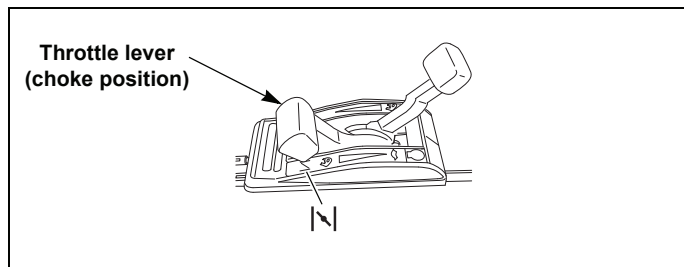

Fig. 4-21
3. Set the throttle to the "CHOKE" position if starting a cold engine. Set the throttle to the "FAST" position if the engine is warm. Fig. 4-21